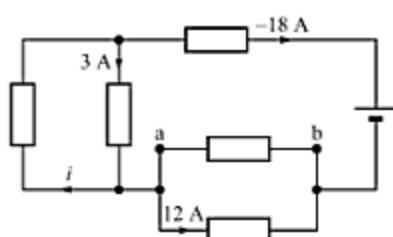

Fig. 3.67
8. Using KCL, determine  $i$  and  $i_{ab}$  in the circuit shown in Fig. 3.67. [Ans.  $-15 \text{ A}$ ,  $6 \text{ A}$ ]